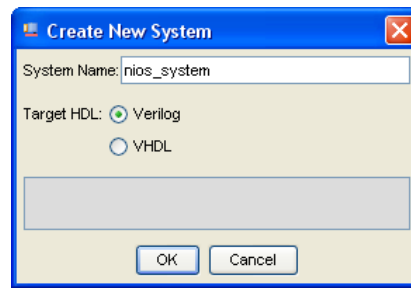
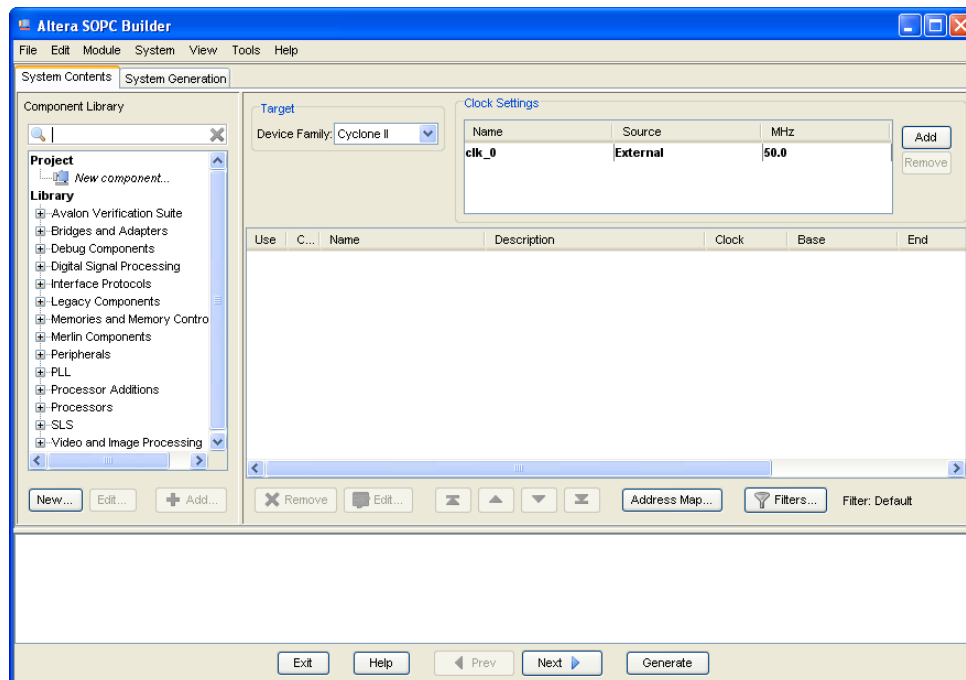
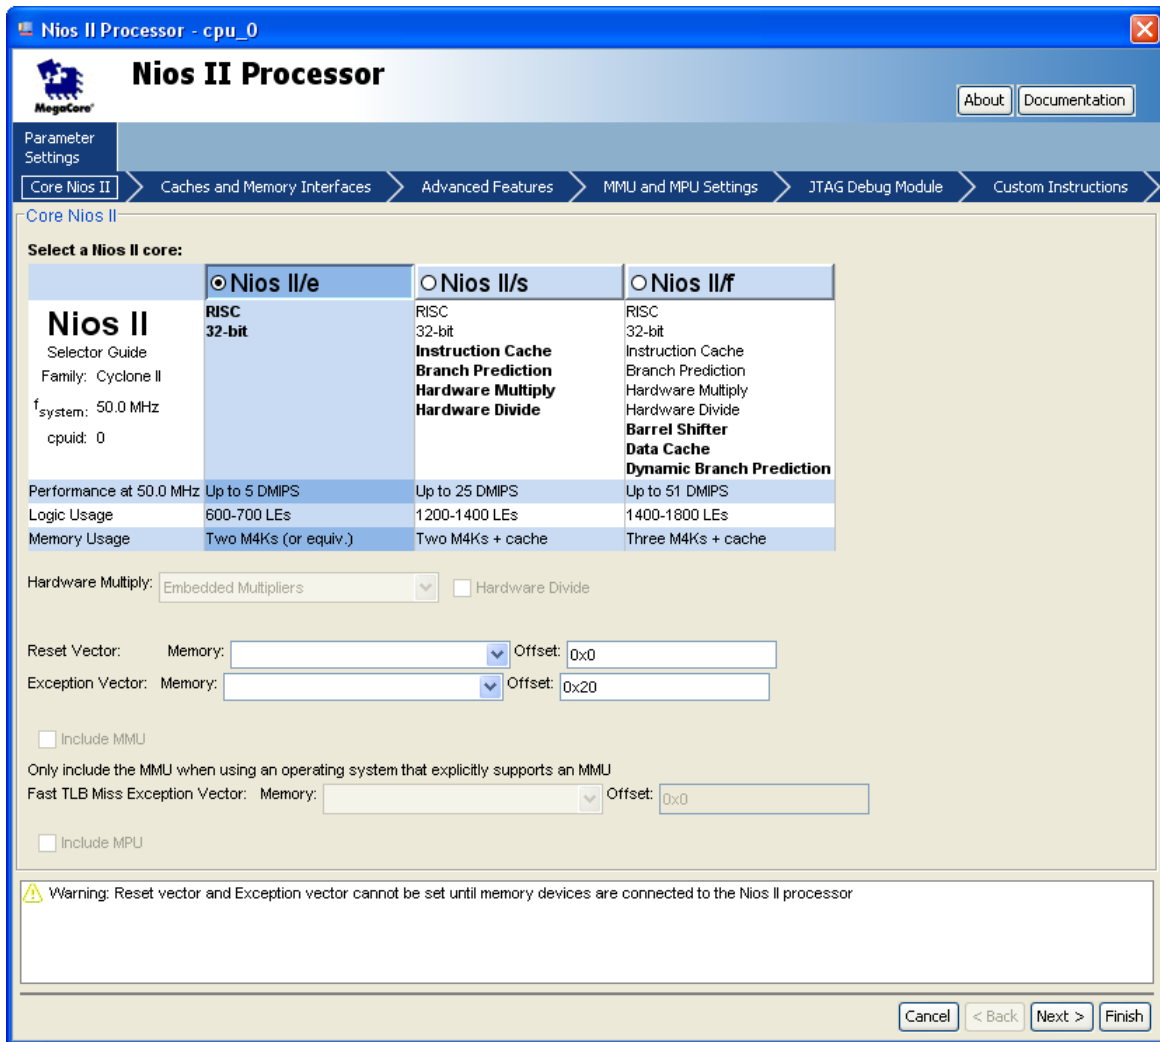
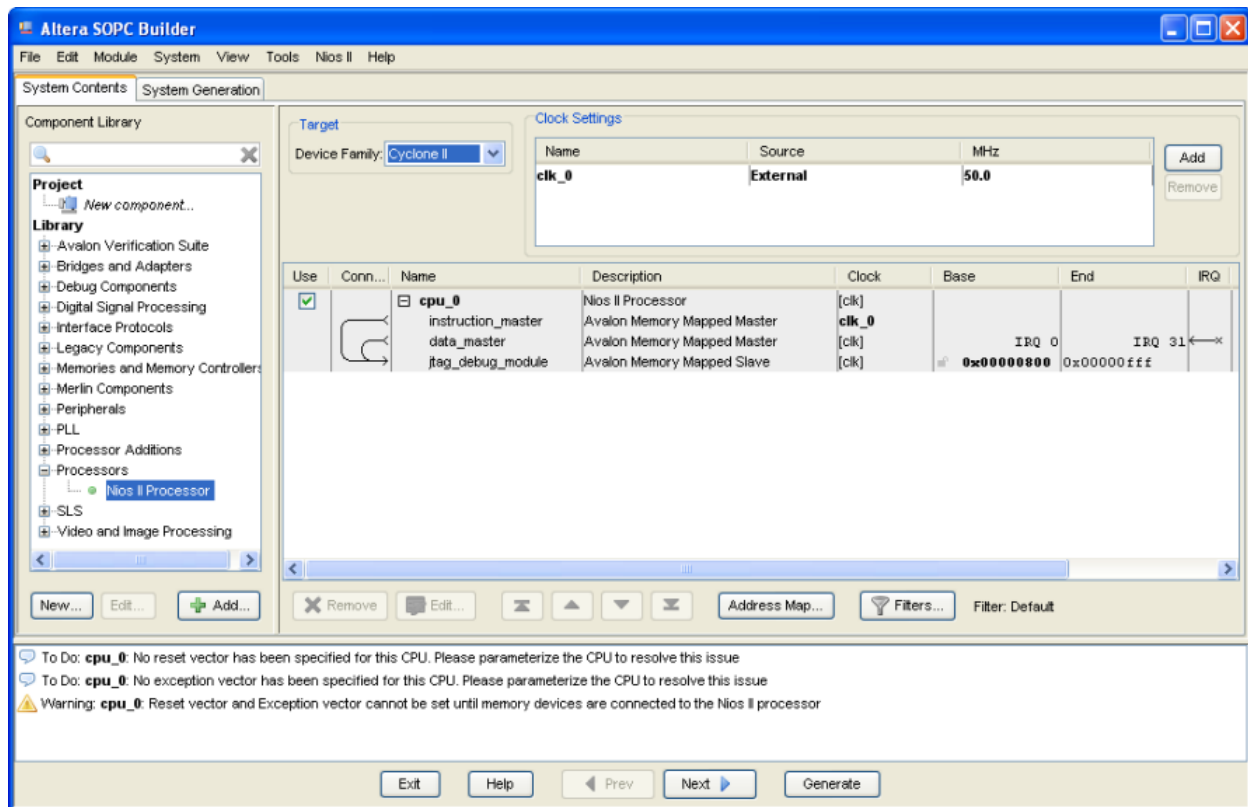

Figure 4. Create a new Nios II system.
Figure 5. The System Contents tab window on a DE-series board.
Figure 6. Create a Nios II processor.
Figure 7. The defined processor on a DE-series board.
2. Select Tools > SOPC Builder, which leads to the pop-up box in Figure 4. Enter *nios_system* as the system name; this will be the name of the system that the SOPC Builder will generate. Choose Verilog as the target HDL, in which the system module will be specified. Click OK to reach the window in Figure 5. Quartus may recommend you to use Qsys. Click OK to proceed.
- Figure 5 displays the System Contents tab of the SOPC Builder, which is used to add components to the system and configure the selected components to meet the design requirements. The available components are listed on the left side of the window. Before choosing our components, examine the area in the figure labeled **Target**. Check the setting for the **Device Family** and ensure that the correct family is selected for the DE-series board. Table 1 lists the device families associated with DE-series boards.
- The Nios II processor runs under the control of a clock. For this tutorial we will make use of the 50-MHz clock that is provided on the DE-series board. As shown in Figure 5, it is possible to specify the names and frequency of clock signals in the SOPC Builder display. If not already included in this list, specify a clock named *clk_0* with the source designated as **External** and the frequency set to 50.0 MHz.
- On the left side of the window in Figure 5 expand Processors, select Nios II Processor and click Add, which leads to the window in Figure 6.
- Choose Nios II/e which is the simplest version of the processor. Click Finish to return to the window in Figure 5, which now shows the Nios II processor specified as indicated in Figure 7. There may be some warnings or error messages displayed in the SOPC Builder Messages window (at the bottom of the screen), because some parameters have not yet been specified. Ignore these messages as we will provide the necessary data later.